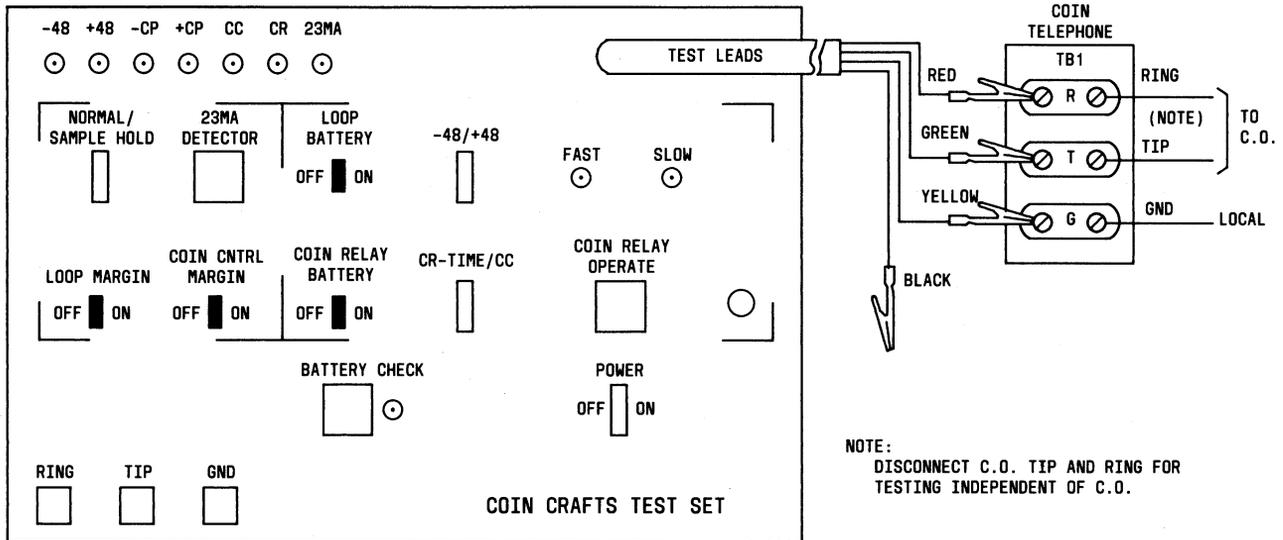

Fig. 2—Test Lead Set-up for All Tests Except Coin Relay Timing
- (b) Connect test set leads to TB-1 of coin telephone set per Fig. 2:
- (b) Connect test set leads per Fig. 2 and take coin telephone handset off-hook:
- (3) **Coin Control Margin Test**—The coin control margin test checks for marginal conditions on the tip to ground coin control path. A failure on this test indicates a borderline circuit resistance and the telephone set may experience erratic trouble or failures.
- (b) Connect test set leads per Fig. 2 and take telephone handset off-hook:
- (4) **Foreign EMF Test**—This is a special use test where the test desk may not be available but you do have access to service on the CO main distributing frame. It will show if there is induced or crossed battery and ground on the pair but will not indicate trouble on individual conductors.
- (b) Connect test set leads per Fig. 2:
3.04 The CO Sequence Test: Tests the interaction between the coin telephone set and the CO equipment. During these tests, LEDs other than those shown may light. These others may be ignored. Prepare coin telephone set as follows and proceed as in (1) or (2).
- Connect test set leads to TB-1 of coin telephone set per Fig. 2.